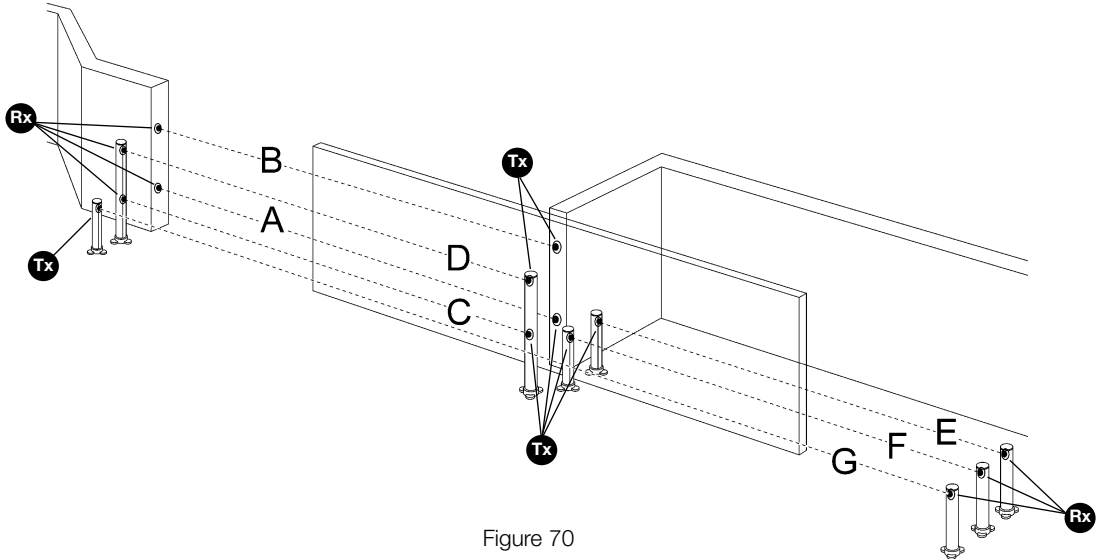

Figure 70
Additional photocells can be installed at any time in addition to those supplied with SL1 and SL10. In an automation system for sliding gates these can be arranged as shown in figure 70.
- 2 Identify the position where they are installed based on figure 70 and connect with jumper according to Table 9.